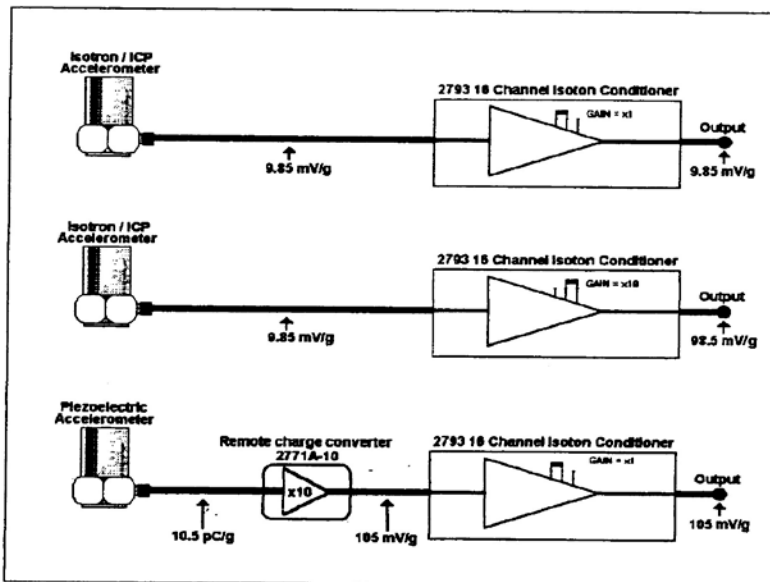

Figure 4
3.2.2 Figure 4 shown examples of typical ups.